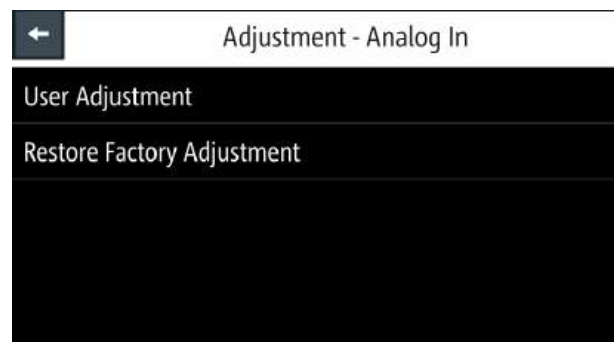

Figure 5-34: Adjustment - Analog In dialog
- To proceed analog input adjustment, select "User Adjustment" in Figure 5-34. The R&S NGP800 displays the "ANALOG IN ADJUSTMENT" wizard to guide the adjustment procedures.